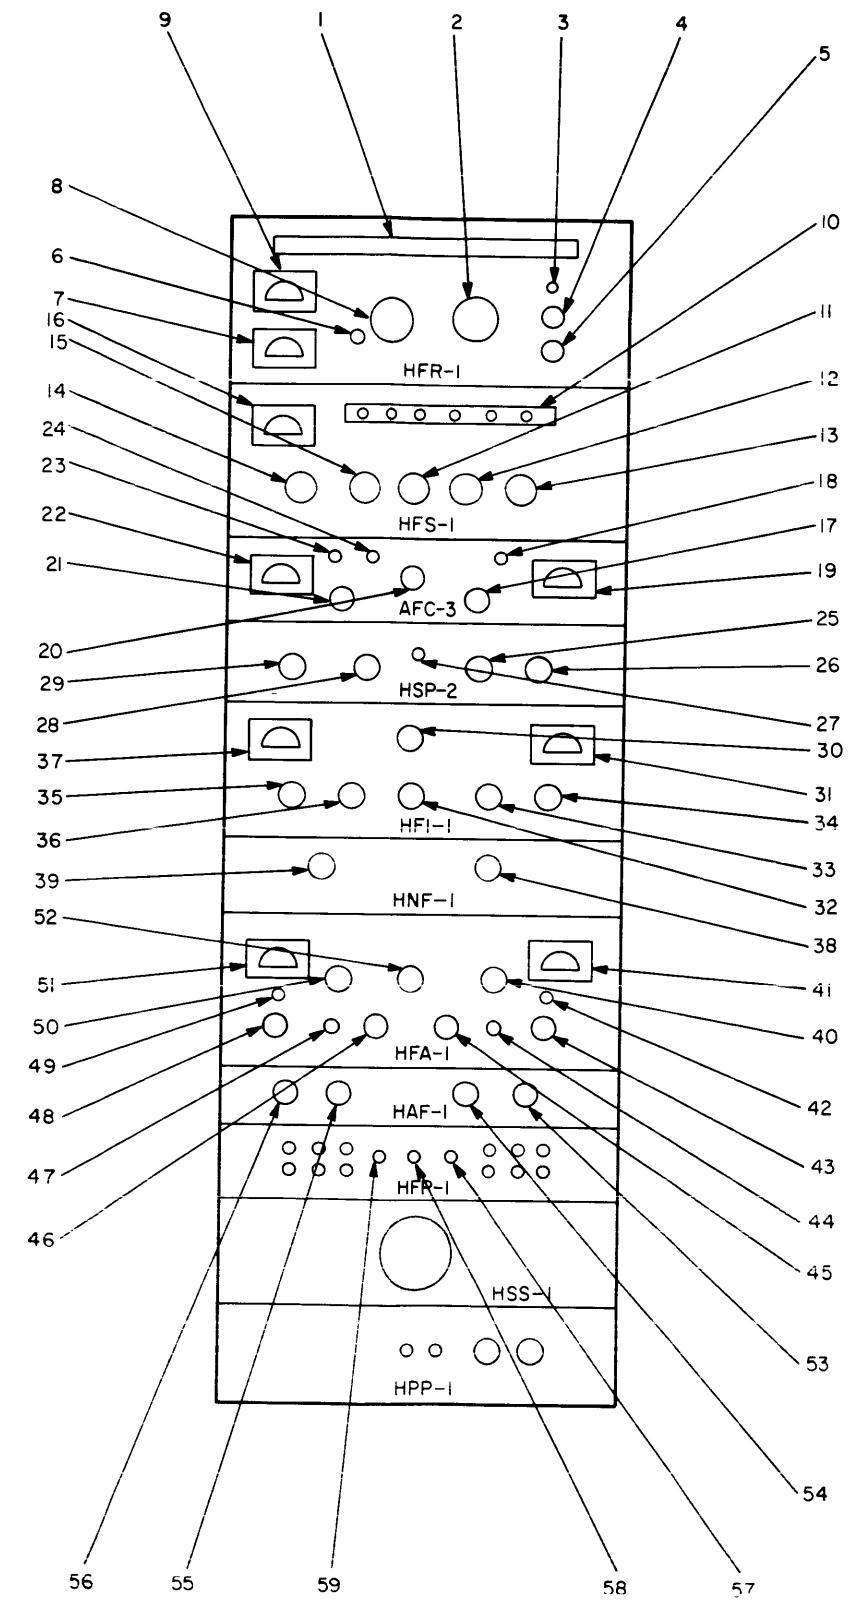

Figure 3-1. Front-Panel Controls and Indicators
Numbers enclosed in parentheses are callouts referenced to figure 3-1.
dicators used during normal operation with the exception of the MAIN POWER switches (refer to paragraph 3-2, b). Figure 3-1 is arranged as a pullout page in order that it may serve as a reference for procedures given in Sections 2, 3, and 4. Table 3-1 lists the controls and indicators and the function of each.
a. FRONT PANEL. - Figure 3-1 illustrates the location of all DDR-5B front-panel controls and in-
a. **GENERAL.** - Haphazard operation or improper setting of controls will result in poor reception; for this reason, the operator should first familiarize himself with all controls and indicators on the DDR-5B. Refer to figure 3-1 and Table 3-1 for the location and function of DDR-5B controls and indicators, and proceed as described in paragraphs b through h below.